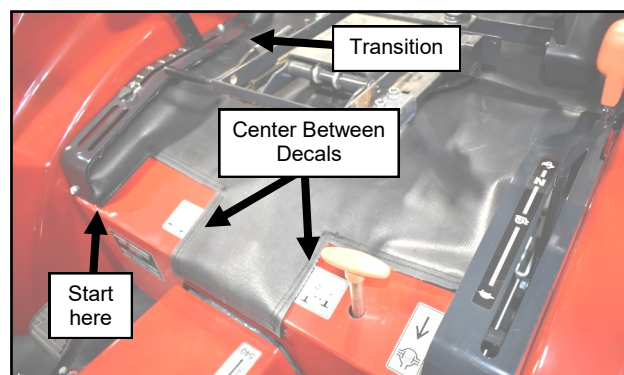

Fig. 21.5 (Secure Front Right Corner Of Under Seat Filler)
- 21.5 Make sure the front of the filler is centered between the decals and repeat the process from step 21.4 to the right side edge. See Figure 21.5. Curl the outer edge and secure it to the **UNDERSIDE** of the 3 point hitch selector lever guard, lining it up edge to edge. At the back of the guard, transition the filler to the side of the fender.
- 21.6 With the sides done, secure the front half of the filler. See Figure 21.5.